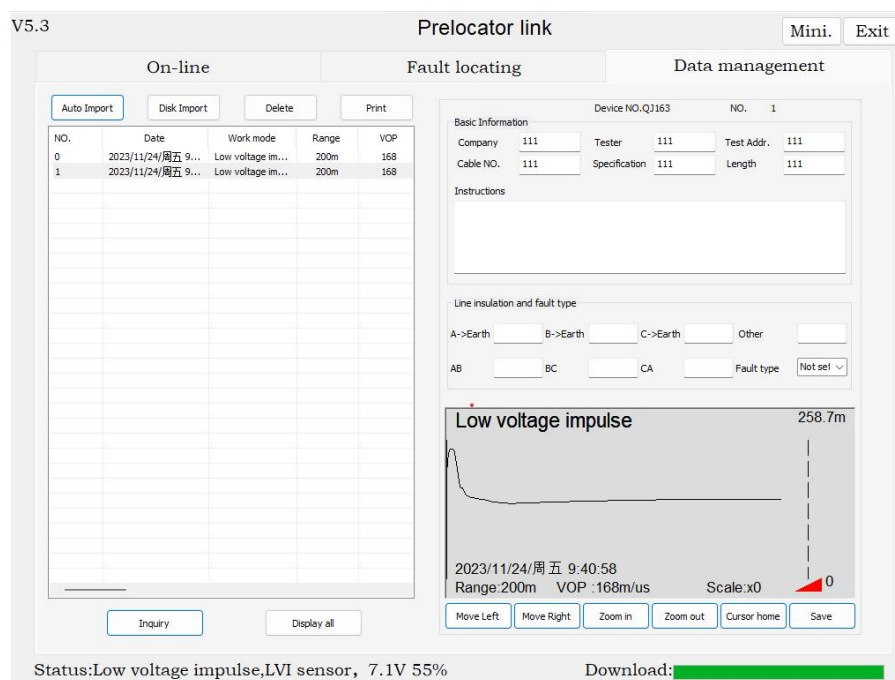

Fig.4-1
4.1 Software fault location processing interface, refer below Fig.4-1